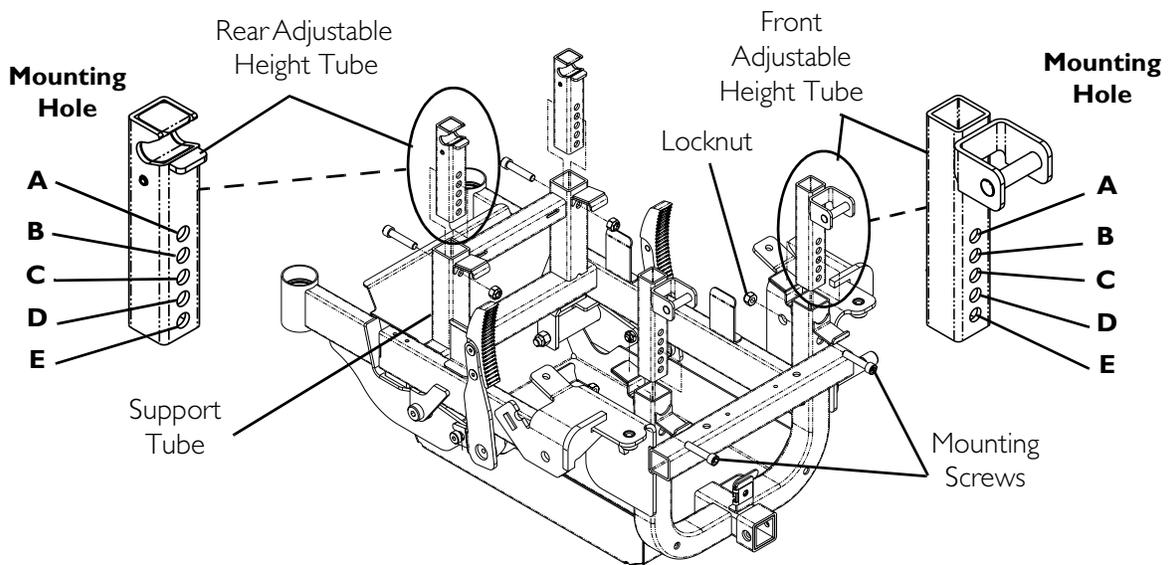

FIGURE 7.5 Adjusting the Seat Height
NOTE: For this procedure, refer to FIGURE 7.5 on page 54.
4. Reinstall mounting screw and locknut (FIGURE 7.5). Securely tighten.